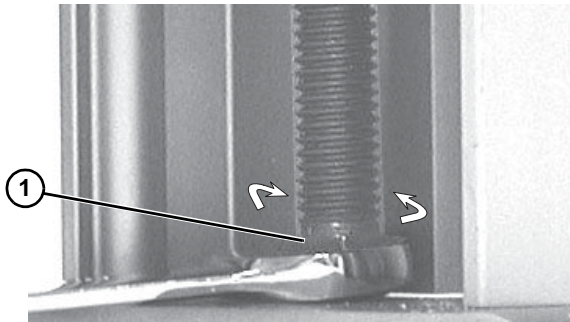

Figure 23
2. Turn kit bolt (Figure 23, item 1) to required height.